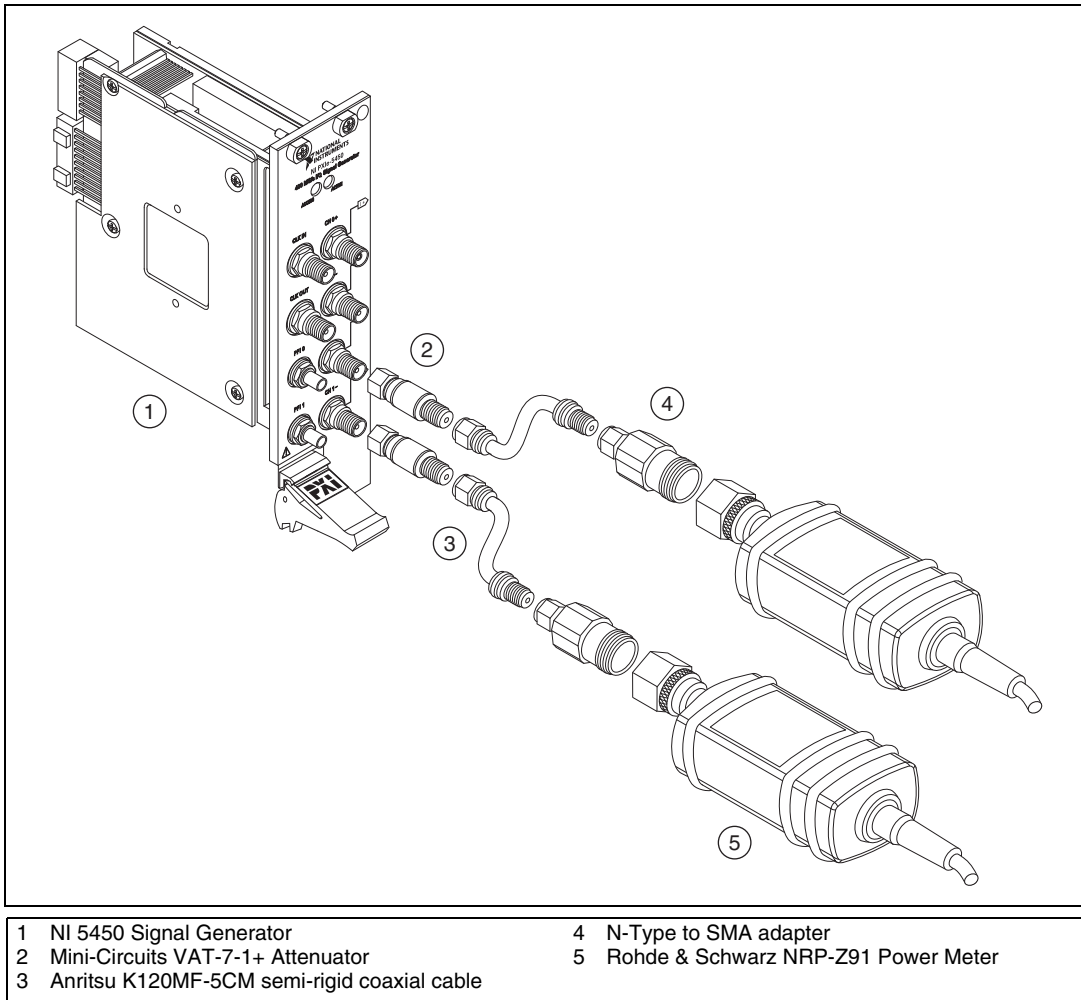

Figure 9. NI 5450 Connection to Power Meters Using Attenuators (CH 1)
19. Connect the devices as shown in Figure 9, using semi-rigid coaxial cables to connect the power meters simultaneously if needed.